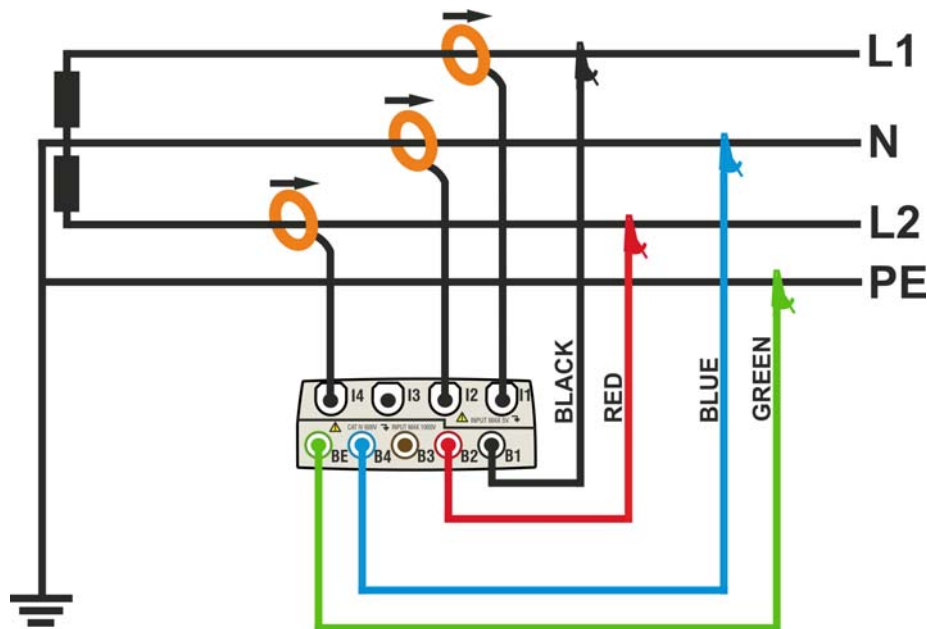

Fig. 130: Meter connection in a two phase 3-wire 1PH3W system – ENG type
2. Connect voltage test leads on Phases L1, L2, N and PE cables considering the colours as shown in Fig. 130
3. Connect the transducer current clamps on Phase L1, L2, N cables as shown in Fig. 130 respecting the clamp's arrow direction indicating the current standard sequence from generator to load. **On Real Time Values' section screens (selecting a 3 wire system preliminarily) always verify the positive value of Active Power and the power factor relative to load which should be normally inductive** before starting a recording. Reverse the clamp by 180 degrees on cables in case of negative readings.